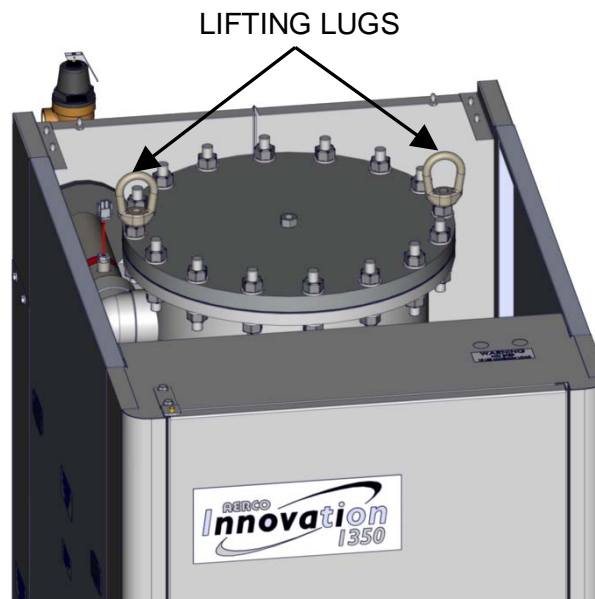

Figure 2-2. Partial Top View Showing Installed Lifting Lugs
The unit must be installed on a 4 inch to 6 inch housekeeping pad to ensure proper condensate drainage. Two lifting lugs are provided with the unit and are wire-tied to the top of the heat exchanger. The top sheet metal cover of the unit must first be removed and the lifting lugs must be installed as shown in Figure 2-2. **USE THESE TWO LUGS TO LIFT AND MOVE THE UNIT.** Remove the top panel from the unit to provide access to the lifting lugs. Remove the four (4) lag screws securing the unit to the shipping skid. Lift the unit off the shipping skid and position it on the 4 inch to 6 inch housekeeping concrete pad (required) in the desired location.